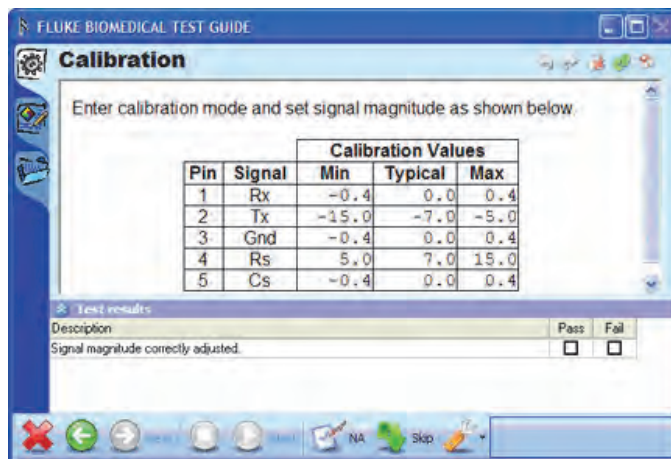

Figure 3-20. Test Guide Display with Linked Procedure
6. Select **View | Preview test element** from the Ansur main menu. The Test Guide is displayed with the linked document as shown in Figure 3-20.